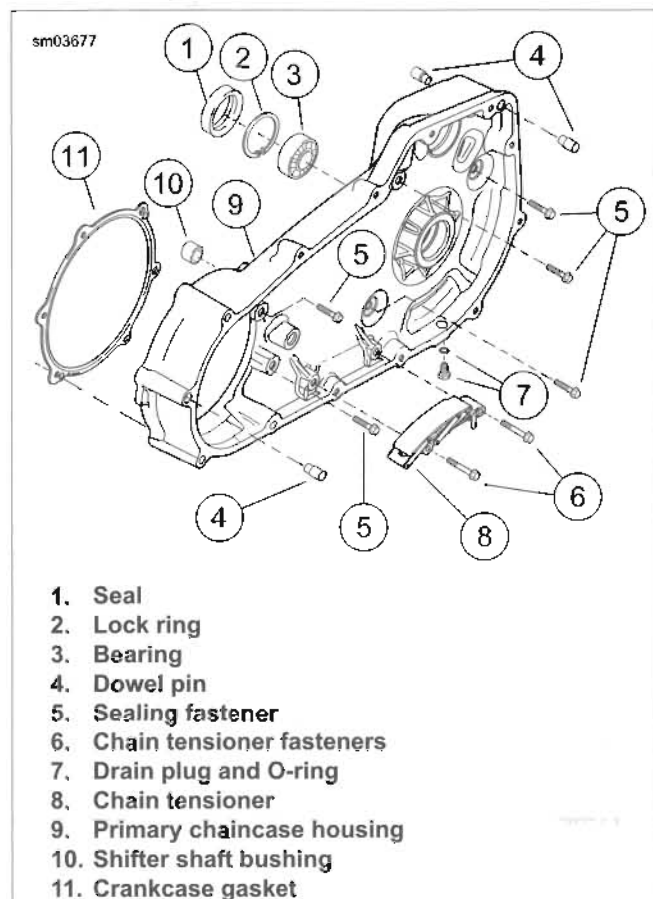

Figure 5-19. Primary Chaincase Housing
5. See Figure 5-19. Remove sealing fasteners (5) securing primary chaincase housing (9) to crankcase and transmission. Discard the crankcase gasket (11) and sealing fasteners (5).
1. See Figure 5-19. Remove seal (1). Use a seal remover or rolling head pry bar for best results.
2. Remove retaining ring (2).